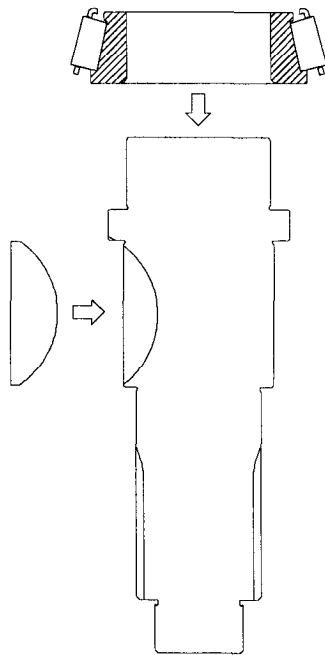

Fig. 41
2. Heat and install the bearing cone assembly against the shoulder on the non-threaded end of the upper input shaft. See Fig. 41.